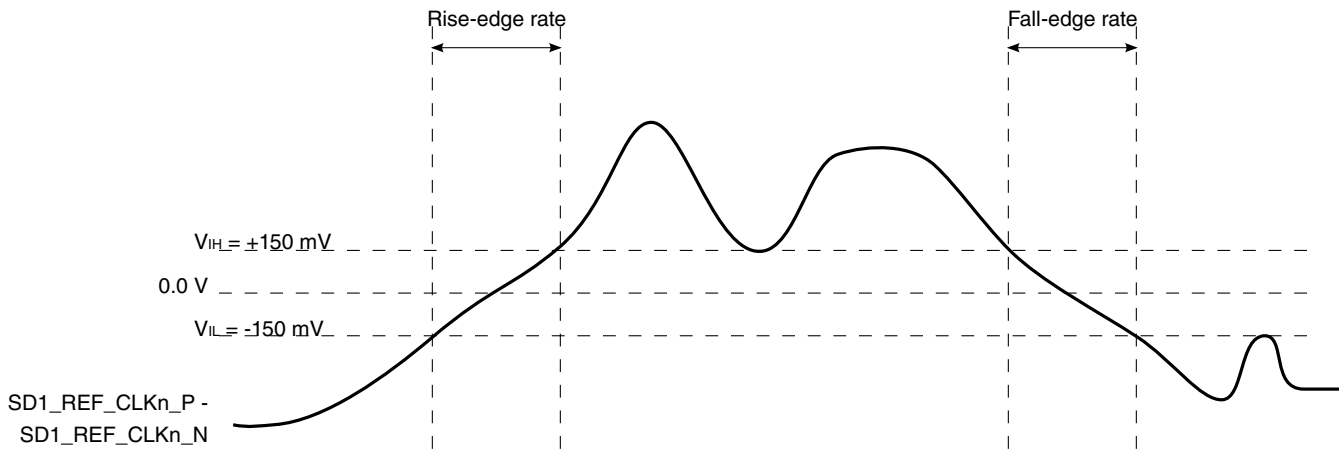

Figure 67. Differential measurement points for rise and fall time
The differential waveform is constructed by subtracting the inverting signal (SD_TXn_N , for example) from the non-inverting signal (SD_TXn_P , for example) within a differential pair. There is only one signal trace curve in a differential waveform. The voltage represented in the differential waveform is not referenced to ground. See Figure 67 as an example for differential waveform.
9. Measured from -150 mV to +150 mV on the differential waveform (derived from SD1_REF_CLKn_P minus SD1_REF_CLKn_N). The signal must be monotonic through the measurement region for rise and fall time. The 300 mV measurement window is centered on the differential zero crossing. See Figure 67.